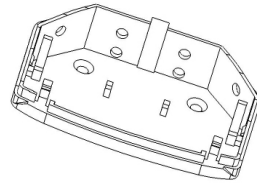

Figure 6
11.3 Depending on the chosen location of the Detector, determine the Detector base sides for fastening to the installation place and drill fastening holes or press them out with a screwdriver (Figure 6).